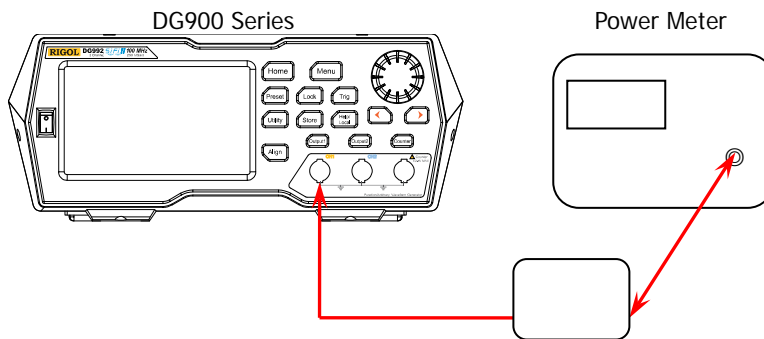

Figure 2-3 Connect DG900 and the Power Meter
6. Disconnect DG900 and the multimeter. Connect the power sensor and the channel output terminal (take CH1 as an example; the test method is also applicable to CH2) of DG900 using a BNC (f)-N (m) adaptor, as shown in Figure 2-3.